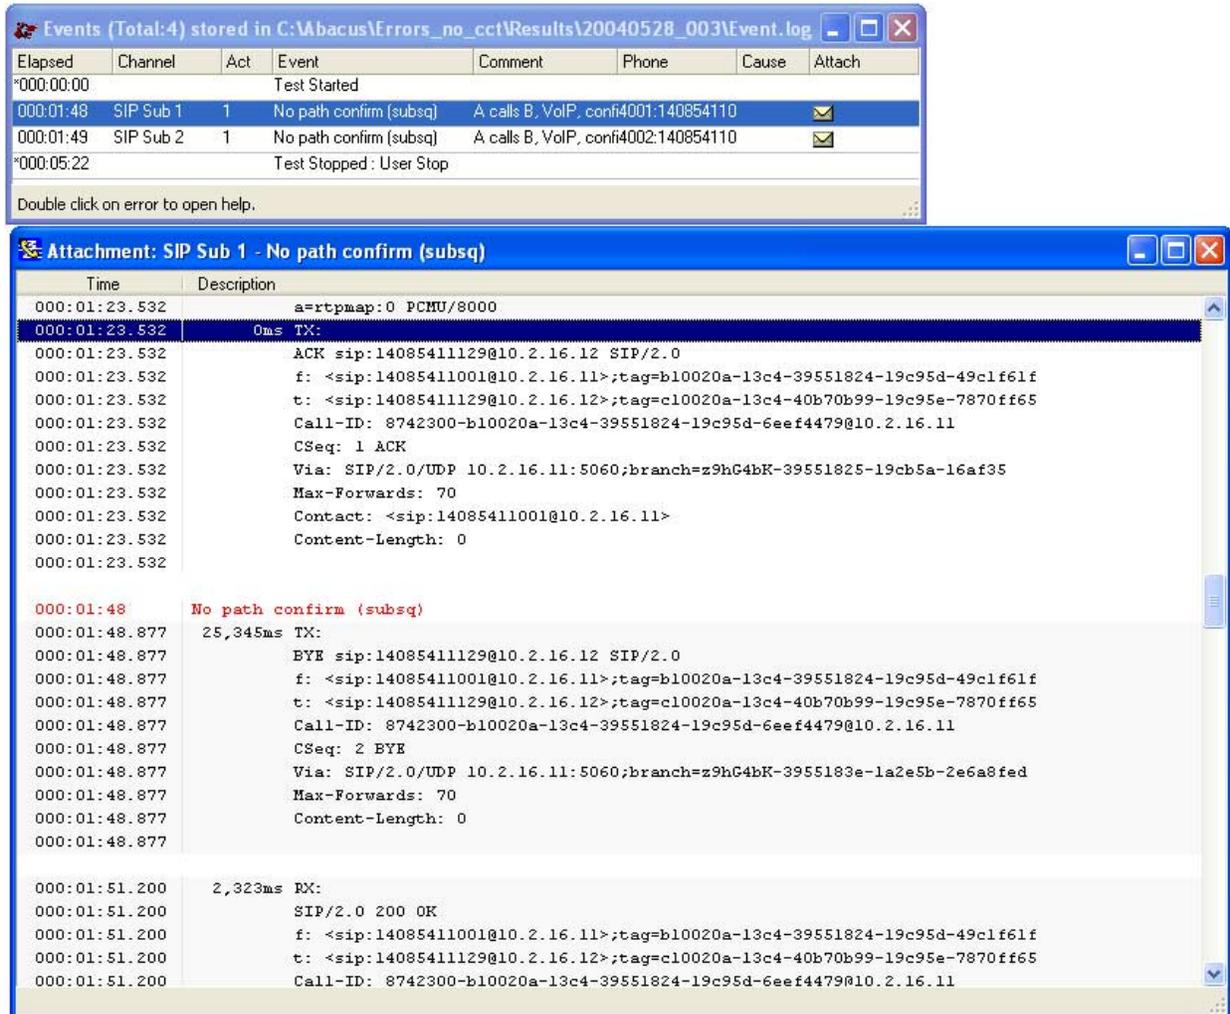
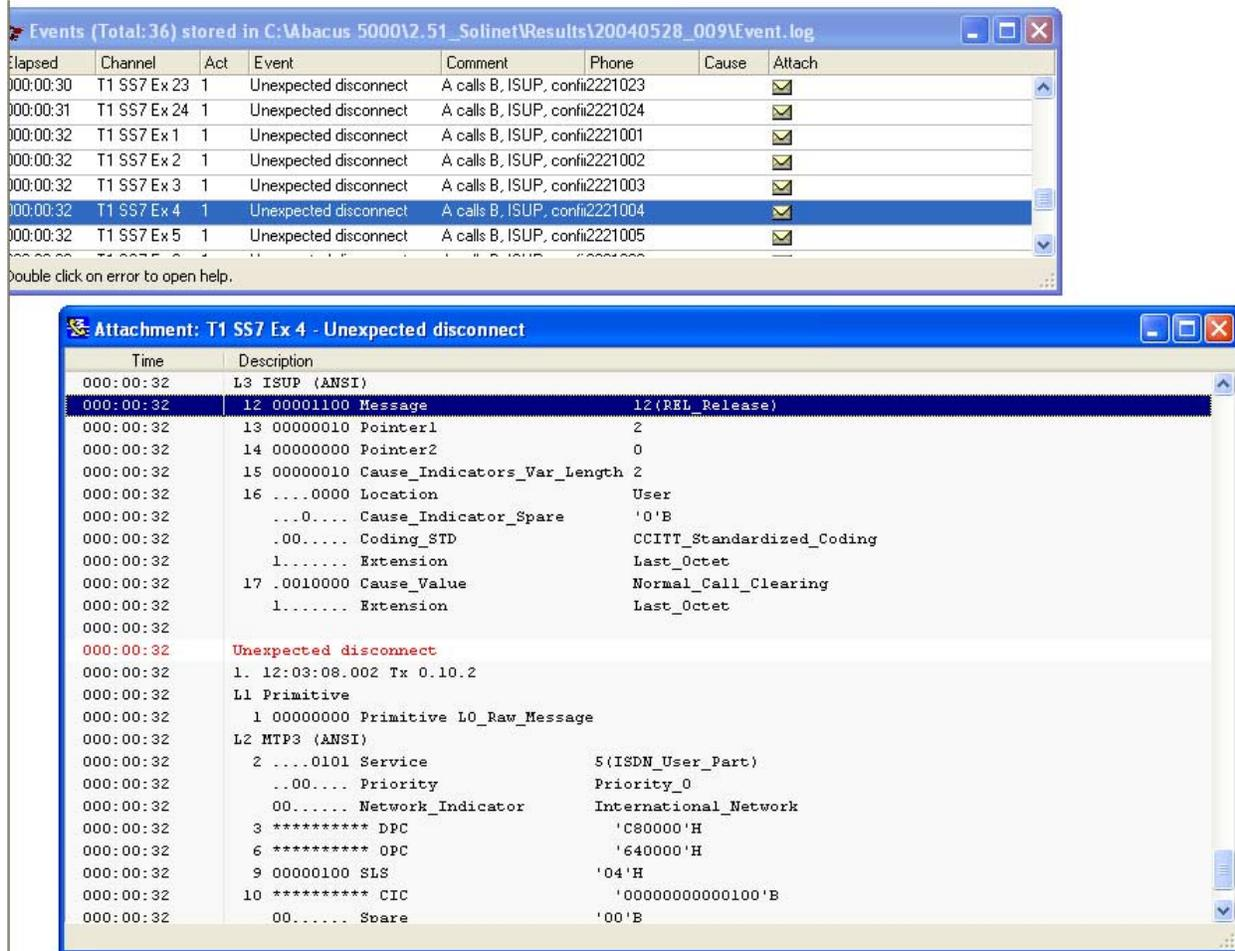

Figure 5. Events Window with Attachment for SIP
Figure 6. Events Window with Attachment for SS7
*Figure 5* shows the **Events** window with an Attachment open for SIP, and *Figure 6* shows the **Events** window with an Attachment open for SS7. The failed call is shown in red.